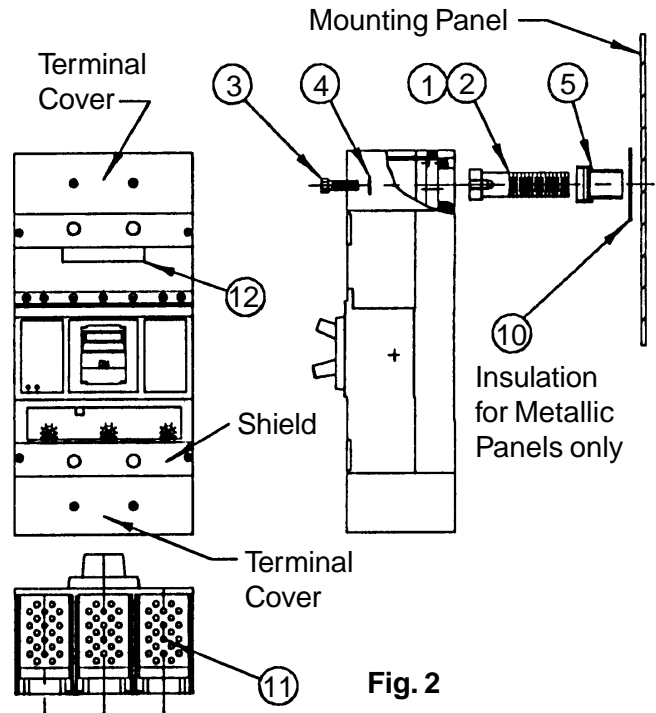

Fig. 2
BREAKER PREPARATION (Fig. 2)
BREAKER PREPARATION CONTINUED (Fig. 2)
- Insert the end shields (11) into the slots provided at the line & load ends of the terminal covers as shown in Fig. 2, one for each stud position. Replace terminal covers and shields.
- Affix the label "BREAKER IS EQUIPPED WITH REAR CONNECTING STUDS" (12) Pc. No. 60229 to breaker cover as shown in Fig. 2.